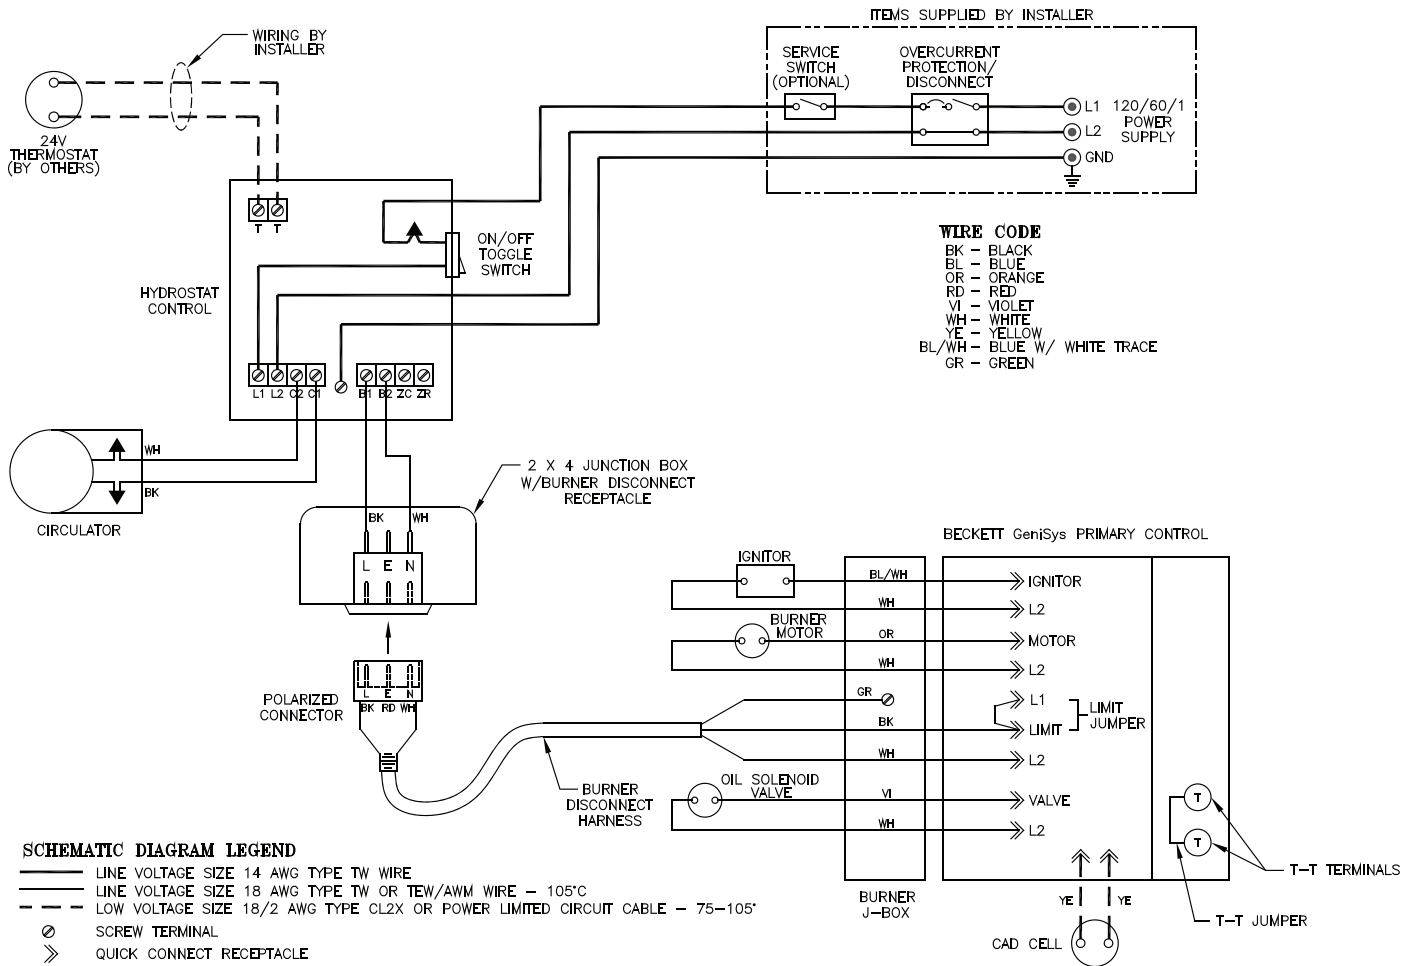

Figure 11: Wiring Diagram for Water Boilers With Beckett AFG Burner and Split Controls
1. 120 Volt Wiring - The boiler should be provided with its own 15A branch circuit with fused disconnect. All 120 volt connections are made inside the HydroStat relay as follows (see Figure 11).
2. Thermostat Wiring - Follow thermostat manufacturer instructions. To insure proper thermostat operation, avoid installation in areas of poor air circulation, hot spots (near any heat source or in direct sunlight), cold spots (outside walls, walls adjacent to unheated areas, locations subject to drafts). Provide Class II circuit between thermostat and boiler. Connect thermostat wire leads to terminals "T" and "T" inside the HydroStat (see Figure 11).